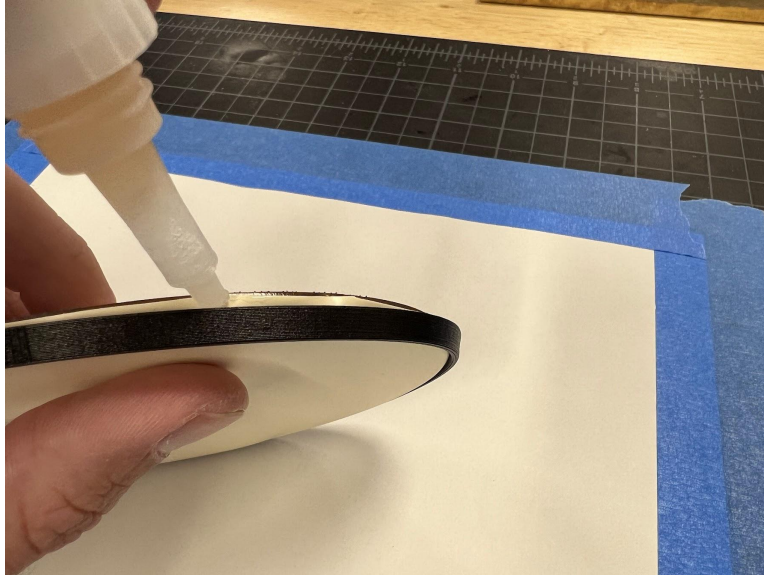

Figure 62: Extra CA glue applied to adhere the sealing band
20. After the glue has cured for five minutes, apply CA glue between the latex and the sealing band to hold the sealing band in place (Fig. 62). Carefully pull away the sealing band where it is loose and apply small amounts of cyanoacrylate (CA) glue, evenly spaced around the edge of the acrylic window. Reassemble the window and the sealing band and once again press firmly on a clean flat surface for alignment.